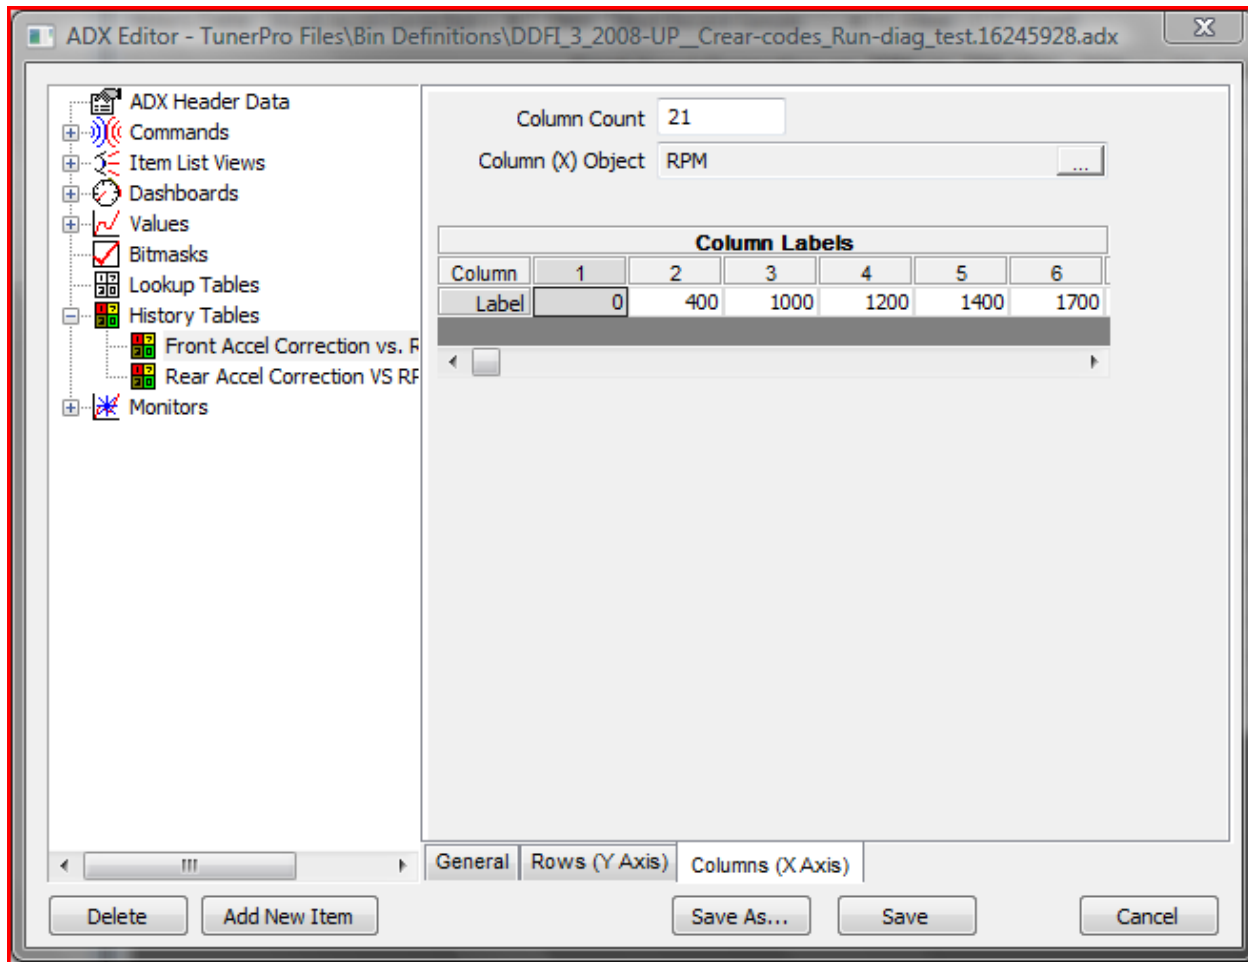

Figure 14: Edit Definition History Tables X Axis RPM
- Now select the Columns (X Axis) tab at the bottom of the window. This will bring up a screen similar to Figure 14 below: